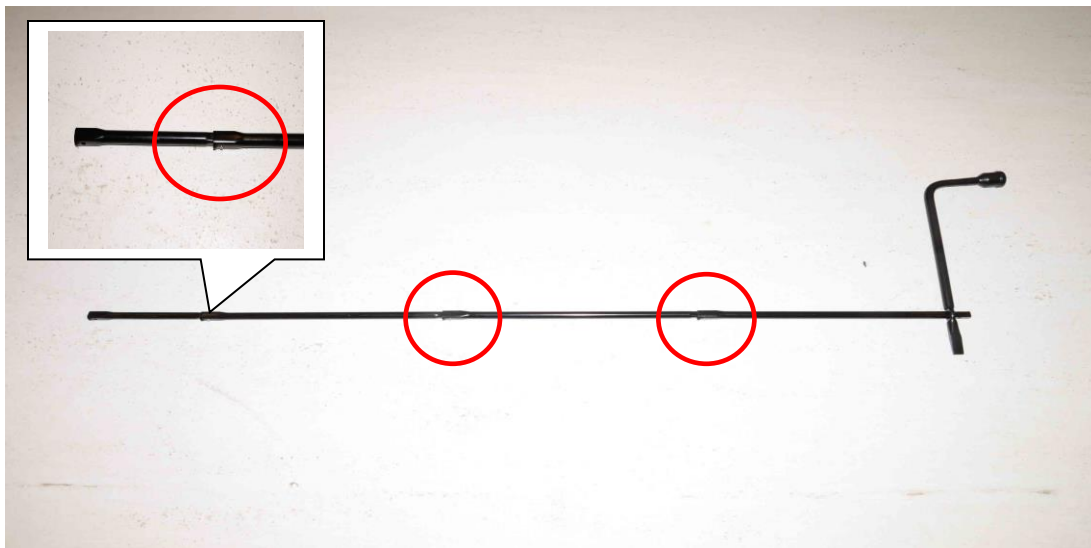

Figure 6 – Assembled Tool
4. Assemble the tools for lowering/raising the spare tire (Figure 6).